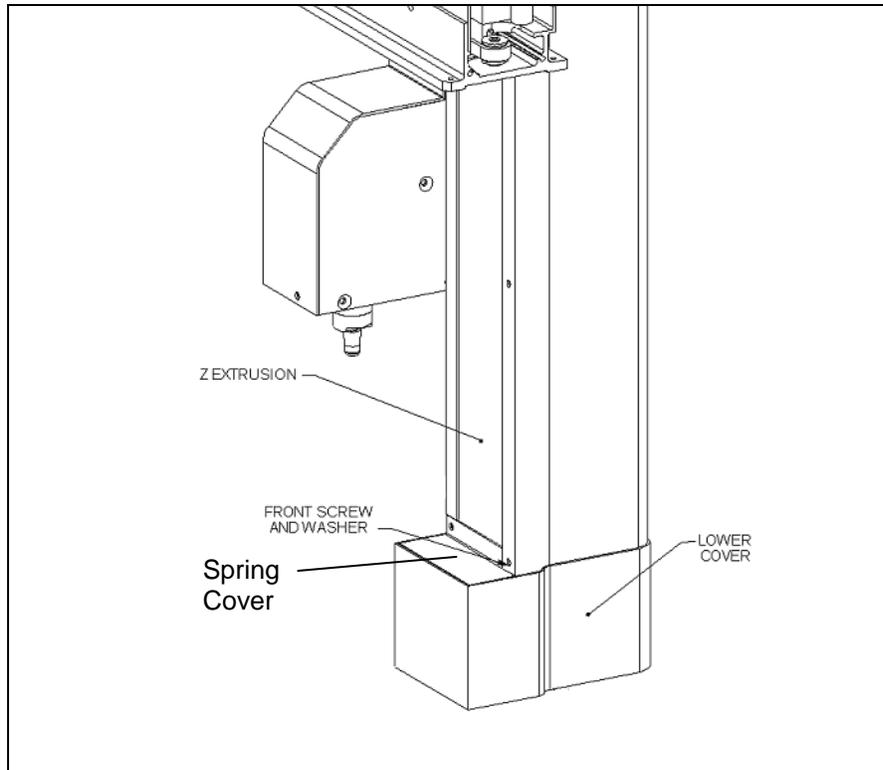

Figure 7-8 Removing the Spring Cover
- 4 Remove the Z-Drive Spring Cover (Part No. 22001010) by removing the two M3 BHCS screws that secure the cover to the extrusion (Figure 7-8).